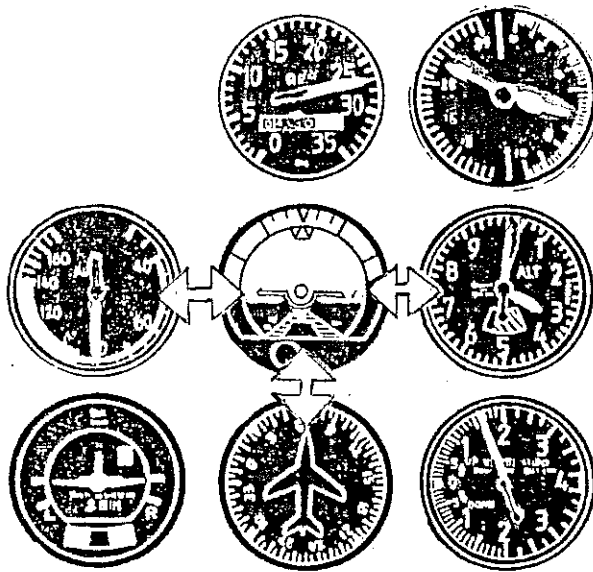

Fig 19.5 Climbing
20 **Entry to climb** The scan used when climbing is illustrated at (Fig 19.5). At the entry to climb:
- 21 **Maintaining the climb** Proceed as follows (see also Fig 19.5):